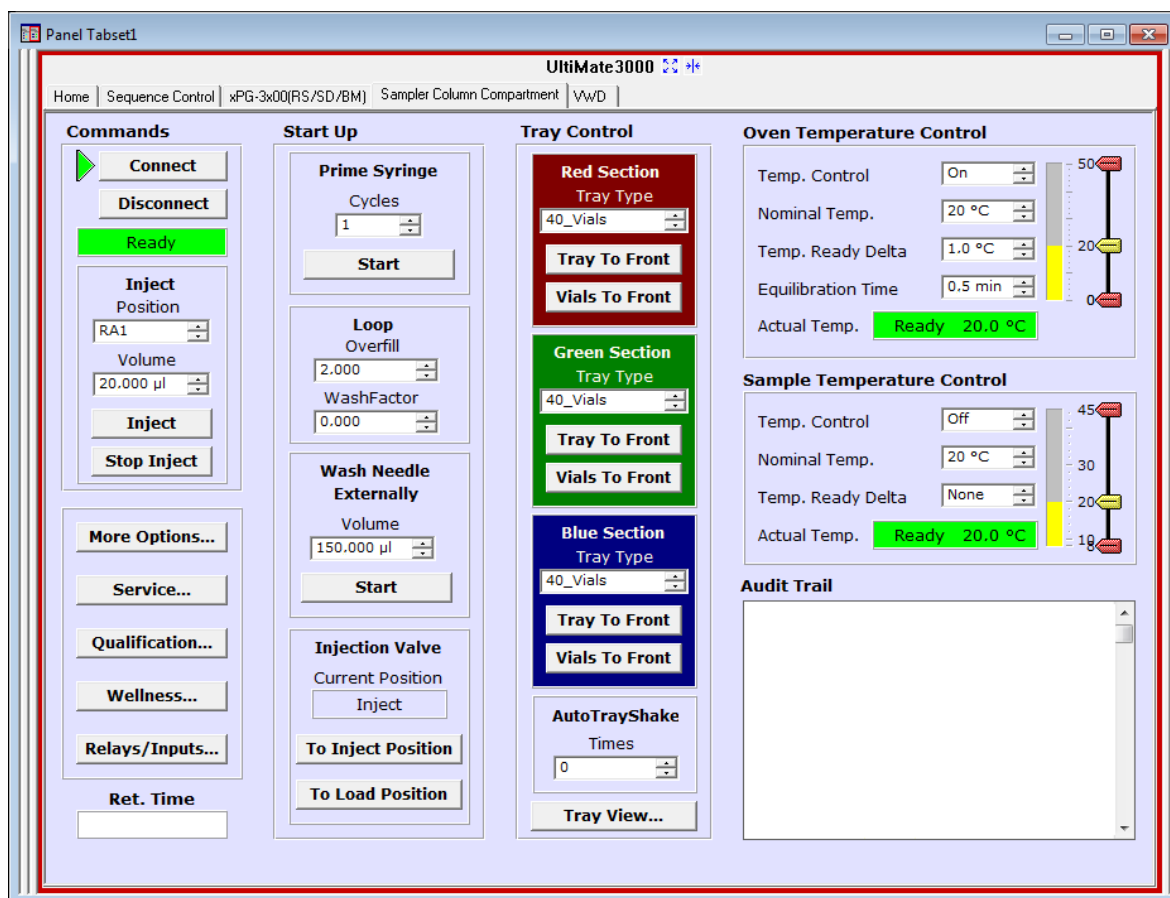

Fig. 31: Autosampler Control Panel on the Panel Tabset
Chromeleon creates centralized control panels, called panel tabsets (→ Fig. 31, page 70), for all timebases available on the Chromeleon server. A panel tabset provides control panels for the individual instruments in a timebase and, in addition, one or more panels for performing system-wide functions, for example, creating and running sequences. For more information about panel tabsets, see the *Chromeleon Help*.
2. On the **Panel Tabset** for your timebase, click the **Sampler Column Compartment** page (→ Fig. 31).